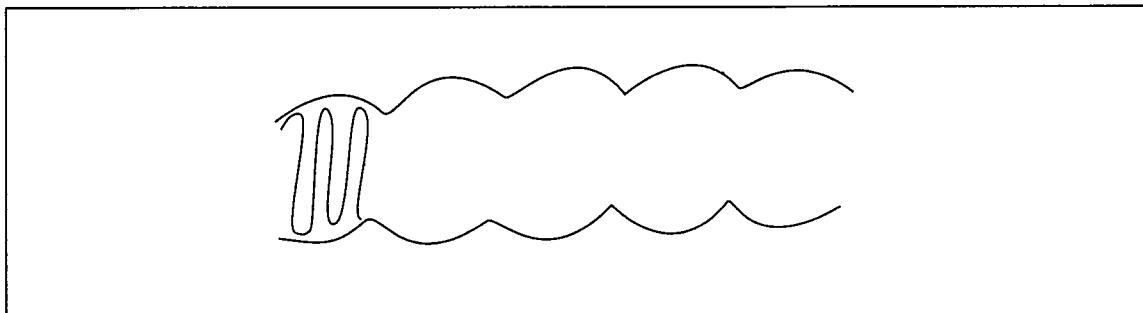

Figure 1 The Pin 52 Output Waveform
- Next, set the modulation frequency to 15 kHz with $\Delta f = \pm 20$ kHz, and adjust the pin 52 output waveform AM modulation to be symmetrical from left to right. (See figure 1.)